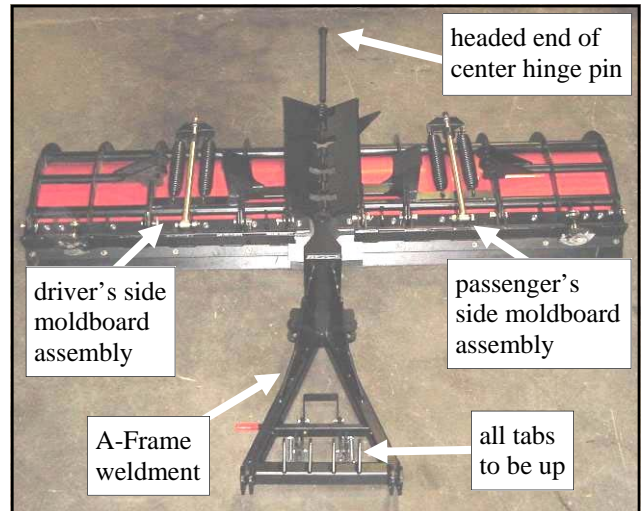

Fig. 1.1 (view of main components)
1.1 Per fig. 1.1, orient the four main components as shown. The moldboard assemblies are to be face down on the ground. The tabs on the A-Frame are all pointing up in the photo as noted. The jack stand on the A-Frame is in the folded up (closed) position as shown.